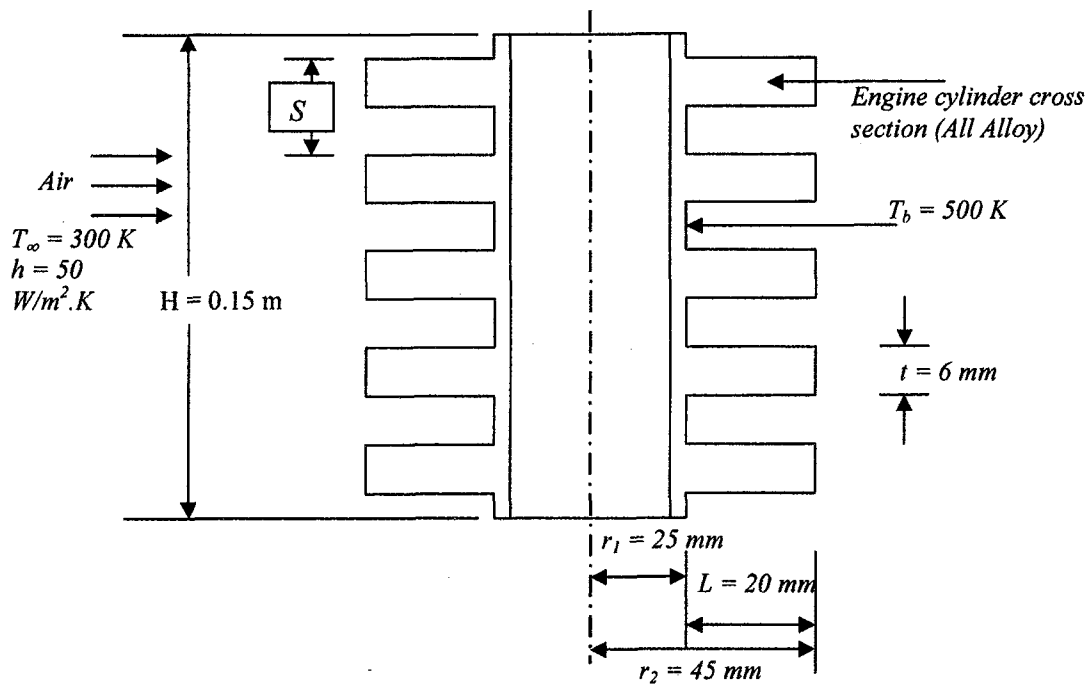

Figure Q.2.1
2. The engine cylinder of a water pump is constructed of aluminum alloy and is of height  $H = 0.15 \text{ m}$  and outside diameter  $D = 50 \text{ mm}$  as shown in Figure Q.2.1. below. Under typical operating conditions, the outer surface of the cylinder is at temperature of  $500 \text{ K}$  and is exposed to ambient air at  $300 \text{ K}$ , with a convection coefficient of  $50 \text{ W/m}^2\cdot\text{K}$ . Annular fins are integrally cast with the cylinder to increase heat transfer to the surroundings. Consider five such fins, which are of thickness  $t = 6 \text{ mm}$ , length  $L = 20 \text{ mm}$  and equally spaced. Thermal conductivity for the aluminum alloy at  $400 \text{ K}$  is  $186 \text{ W/m}\cdot\text{K}$ .